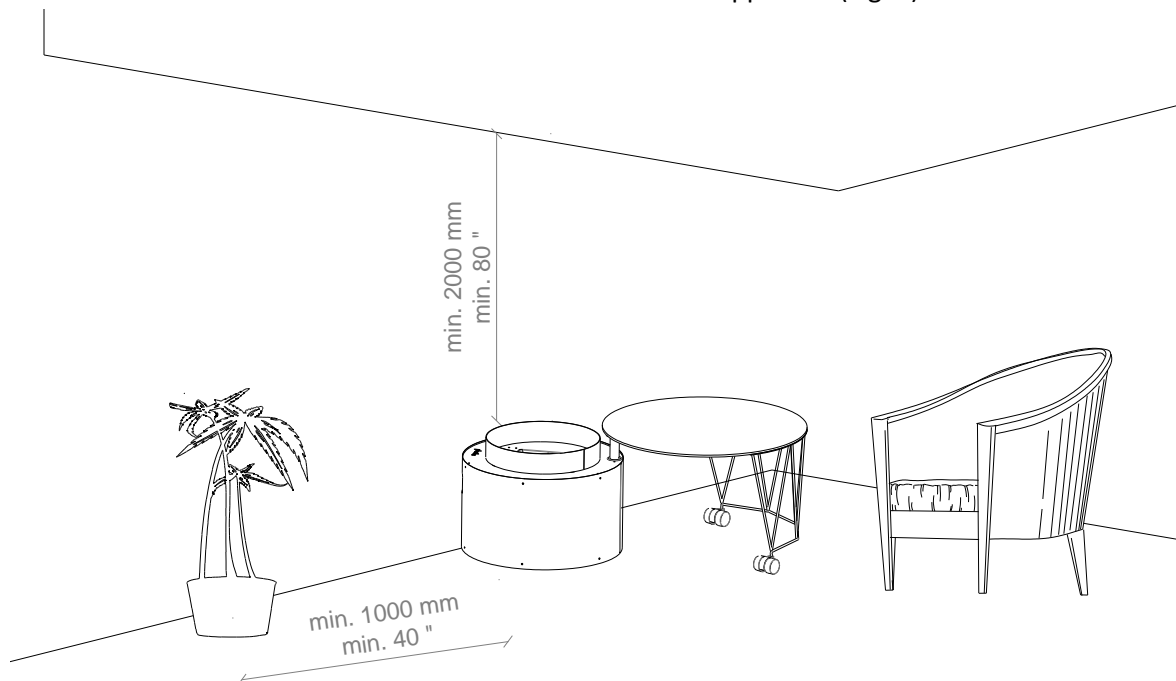

Fig. 1: Minimum distance to flammable materials
- This appliance must be kept away from flammable materials during use. Do not place any combustible materials within a distance of 1 m of Drum and 2 m over the appliance (Fig. 1).